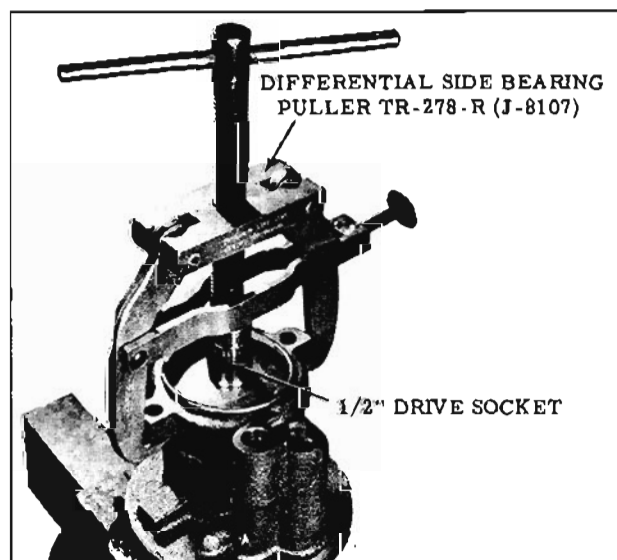

Fig. 8-34 Installing End Cover
- b. Install Differential Side Bearing Puller (J-8107), along with a 1/2" drive socket to press the end cover down beyond the retaining ring groove. (Fig. 8-34)
A check valve located under the high pressure connector seat (Fig. 8-34) hydraulically dampens the shock transmitted to the steering gear when driving on washboard roads.